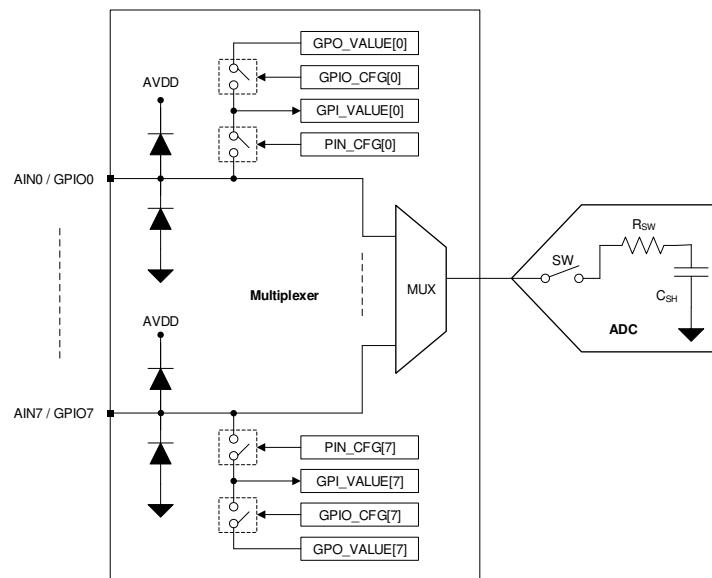

图 7-1. Analog Inputs, GPIOs, and ADC Connections
The eight channels of the multiplexer can be independently configured as ADC inputs or general-purpose inputs/outputs (GPIOs). As shown in 图 7-1, each input pin has ESD protection diodes to AVDD and GND. On power-up or after device reset, all eight channels of the multiplexer are configured as analog inputs.
图 7-1 shows an equivalent circuit for the pins configured as analog inputs. The ADC sampling switch is represented by an ideal switch (SW) in series with a resistor (R_{SW} , typically $150\ \Omega$) and a sampling capacitor (C_{SH} , typically $30\ pF$). During acquisition, the SW switch is closed to allow the signal on the selected analog input channel to charge the internal sampling capacitor. During conversion, the SW switch is opened to disconnect the analog input channel from the sampling capacitor.
To enable write access to the configuration registers for diagnostics, write 0x96 in the DIAGNOSTICS_KEY register. To enable bit-walk test mode, configure BITWALK_EN = 1b. In the bit-walk test mode (see 図 7-1), the sampling switch (SW) remains open and the test voltage is applied on the sampling capacitor (C_{SH}) during the acquisition phase of the ADC. In diagnostic mode, the conversion process of the ADC remains the same as normal device operation. The ADC starts the conversion phase on the rising edge of \overline{CS} and outputs the code corresponding to the sampled test voltage. The output code of the ADC is expected to be proportional to the test voltage, as shown in 式 2, after adjusting for DC errors (such as INL, gain error, offset error, and thermal drift of offset and gain errors).